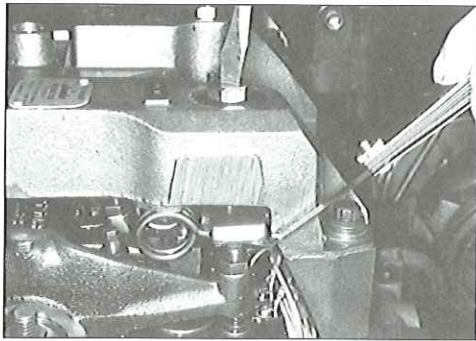

FIG. 22
3. Turn the slave piston adjusting screw clockwise until a **slight drag** is felt on the feeler gage (see Fig. 22).